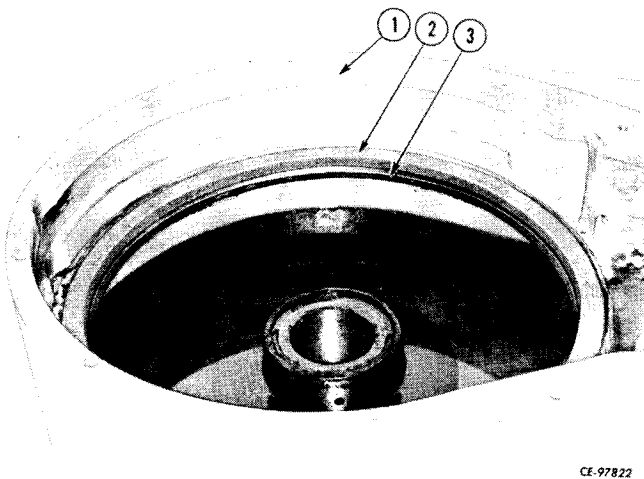

Figure 14-15
Inspect condition of the dust seal (2, Fig. 14-15) and the oil seal (3). If replacement is necessary, remove old dust seal and oil seal and install new seals. When installing dust seal use a suitable